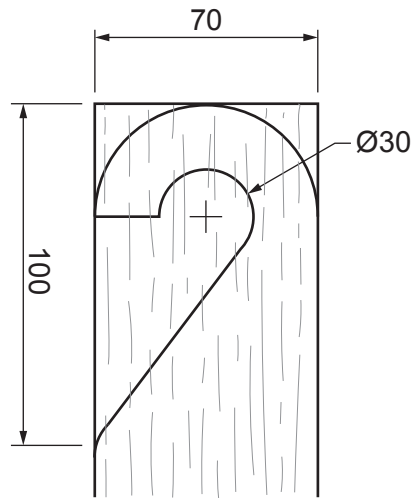

Fig. 12.3
- (b) Fig. 12.3 shows the hook shape of the back of the storage unit marked out, ready to be cut out and shaped.